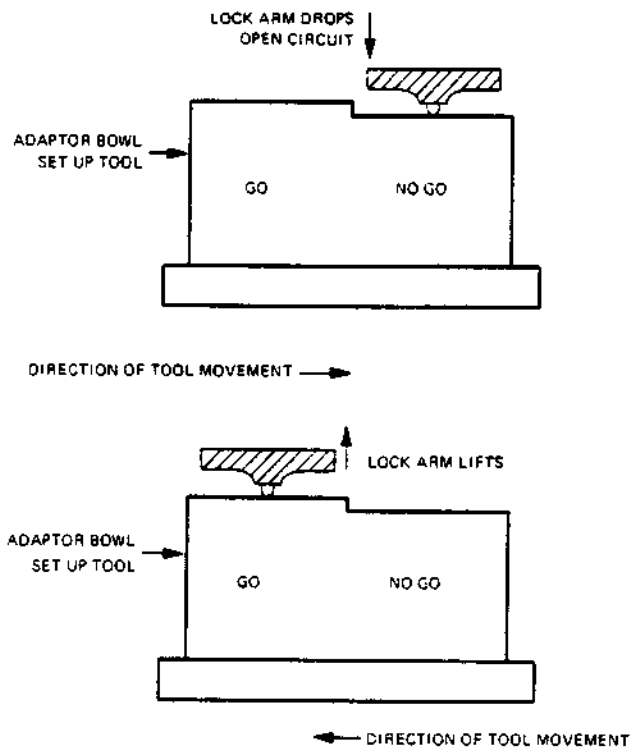

Figure 6-36. GO/NO GO Adjustment Tool, End View
- (5) Manually depress the solenoid plunger and rotate the lock arm to the locked position over the NO-GO position marked on the tool. See Figure 6-36. There should be no switch closure observed between pins 1 and 2.
- (6) Retract the lock arm and move the tool to the GO position.
- (7) Manually depress the solenoid plunger and rotate the lock arm to the locked position over the GO portion of the tool. Contact closure should be observed between pins 1 and 2.